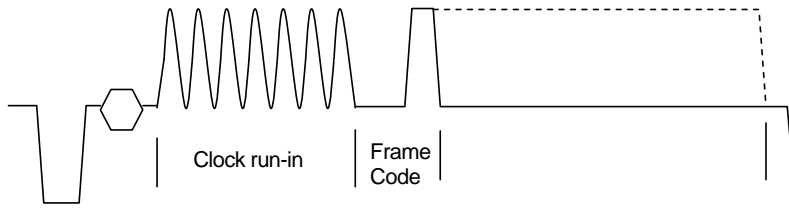

Figure 5 Typical CC/EDS scan line waveform
Closed Caption (CC) vertical blanking interval scan lines are on the odd field NTSC line 21. Extended Data Services (EDS) scan lines are on the even field NTSC line. A Closed Caption (CC) scan line on an NTSC-based system is made of 25 bit periods at a 0.503MHz rate. The data is an analog signal beginning with a packet header. It contains a Clock Synchronization Code consisting of 14 bits of double-frequency run-in clock at 1.006 MHz, a 2-bit framing code. The data of 16 bits/2 bytes follows the packet header. Each of these 2 bytes is a 7 bit+ odd parity ASCII character which represents text or control characters for positioning or display control. For the purposes of CC or EDS, only the Y component of the video signal is used. Therefore, the input composite video has to go through the Y/C separation to extract Y component for further decoding. The TW8817 can be programmed to decode CC or EDS data by setting register 0x1B. Since the CC and EDS are independent, there could be one or both in a particular frame. A typical waveform is shown in Figure 5.